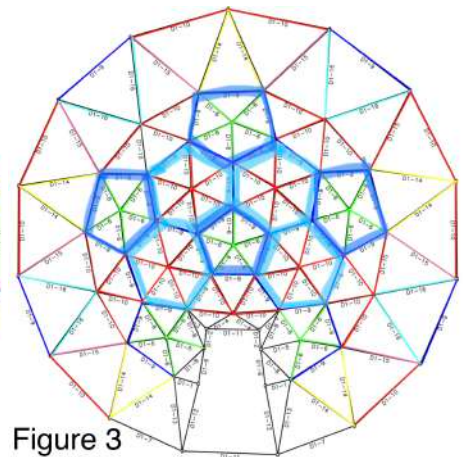

Figure 3
- All #9 struts form the perimeter of the pentagons (dark blue) & hexagons (light blue) (Figure 3)